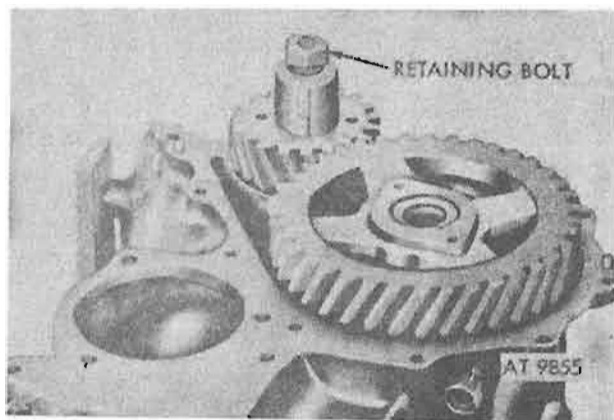

Figure 4-105. Install crankshaft pulley retaining bolt.
f. *Crankshaft Pulley Retaining Bolt*. Install crankshaft pulley retaining bolt in front end of crankshaft to prevent damaging threads when removing gear with puller (fig. 4-105).